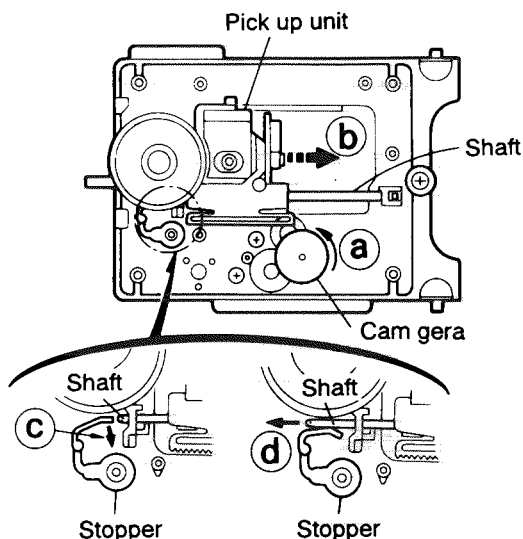

Fig. 2-22
**Removing the CD pickup unit** (See Fig. 2-22)
2. According to the above step, shift the CD pickup unit to the center position (Fig. 2-22).
3. While pressing the stopper retaining the shaft in the arrow direction (c), pull out the shaft in the arrow direction (d) (See Fig. 2-22).